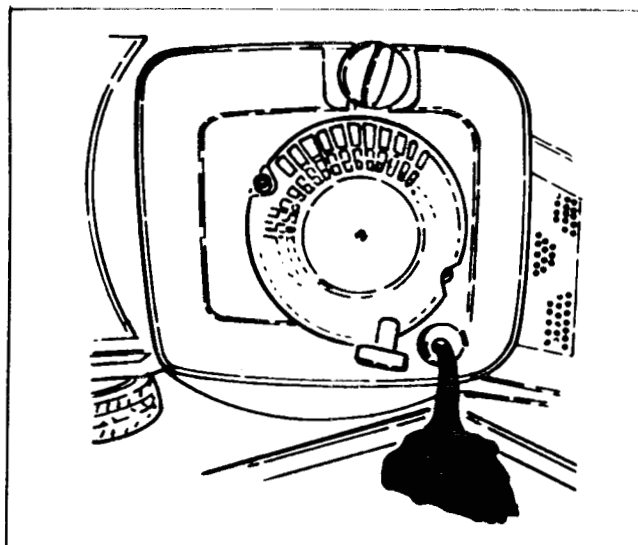

Figure 11
3. Remove the dipstick. Tip the mower on its left side and empty all the oil into a drain pan. See Figure 11. Tip mower down and up a few times to ensure oil drains completely.